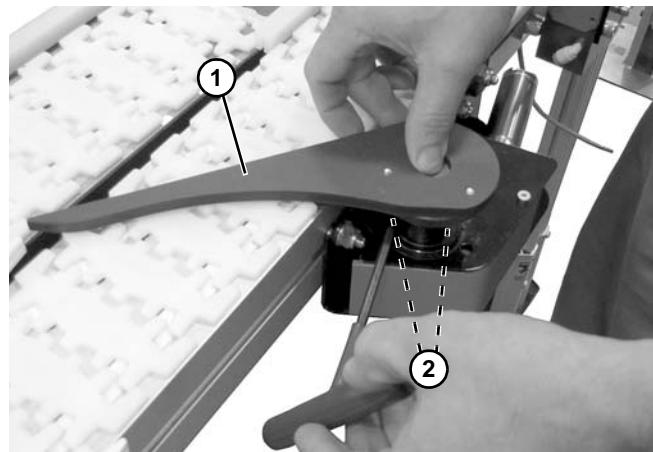

Figure 34
- a. Move divert to maximum displacement angle (**Figure 34, item 1**).
- b. Loosen two fasteners (**Figure 34, item 2**).